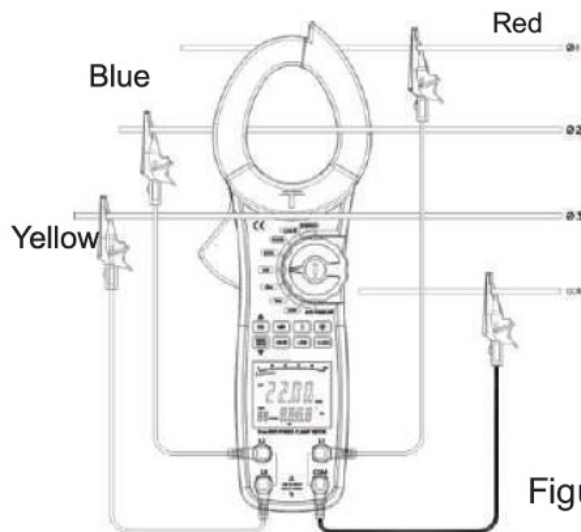

Figure 6
3. Connecting method (see Figures 6, 7, 8):
5. Insert black test leads to the COM input terminal and connect it to the neutral wire of the 3 phase. When measuring 3 phase 4 wires, connecting the Meter as figure 6.
In figure 6 $\Sigma W = W1 + W2 + W3$.
3. The connecting method of 3 phases 4 wires or 3 phases 3 wires, refer to figure 6 and 15
- The connecting method of 3 phase 4 wires and 3 phases 3 wires see figure 6 and 15